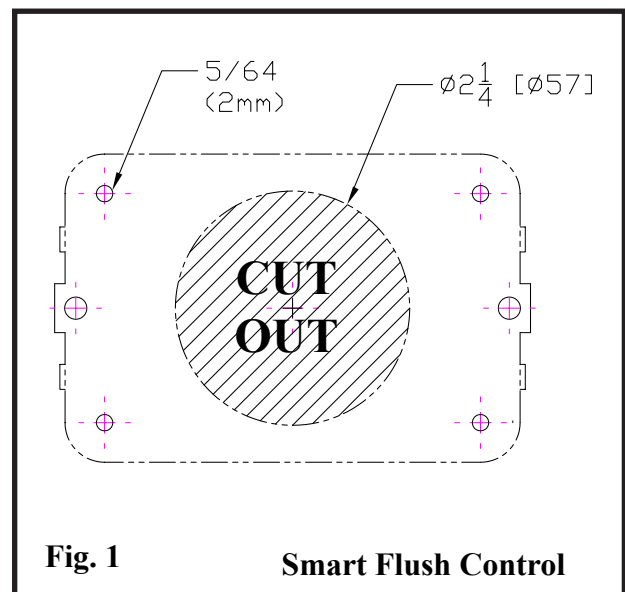

Fig. 1
1. Cut out a hole per Fig. 1, mark mounting holes using wall plate as guide.